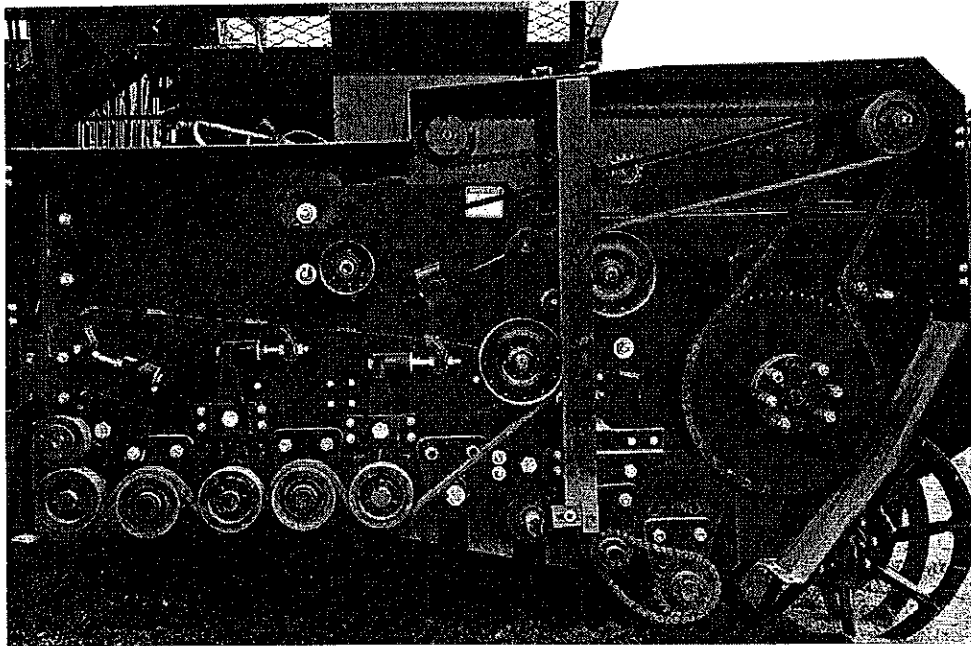

Figure 30. Right-Hand Drive Mechanism (Shields Removed For Clarity)
- A 4-band V-belt drives the rollers on the right side of the harvester (Figure 30).